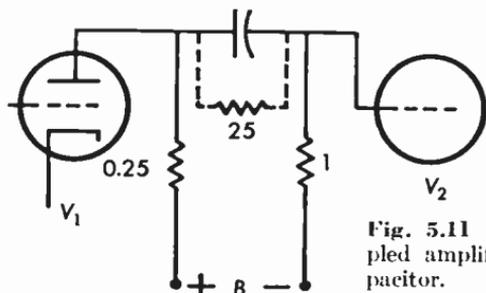

Fig. 5.11 Resistance-capacitance coupled amplifier with leaky coupling capacitor.
**5.11** While looking for the reason for distortion in a radio receiver it is found that the audio-frequency stage has a leaky coupling capacitor with a leakage resistance of 25 megohms. The plate resistor is 0.25 megohm, and the grid-leak resistor is 1 megohm. What is the value of the positive voltage on the grid of the tube  $V_2$  in Figure 5.11 caused by this leakage, if the plate supply is 125 volts?